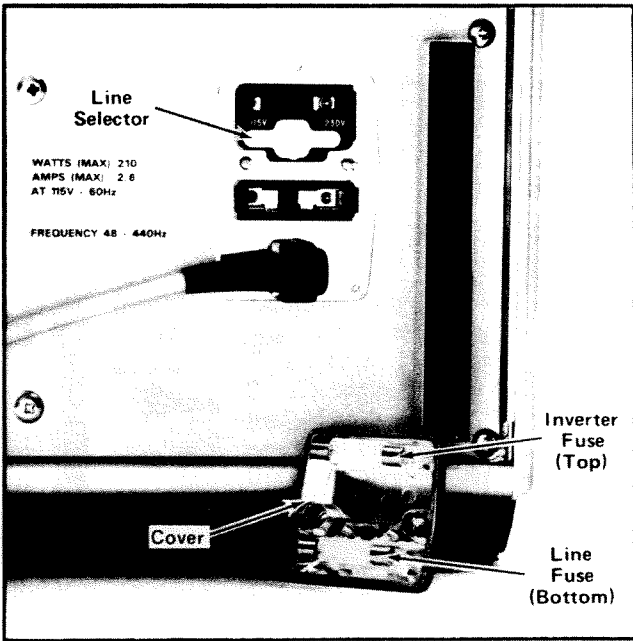

Fig. 2-1. Line Selector assembly on rear panel (shown with cover removed).
3. To convert from 115-volts to 230-volts nominal line voltage, or vice versa, pull out the Selector switch bar (see Fig. 2-1) and plug it back into the remaining holes. Change the line-cord power plug to match the power-source receptacle or use a 115- to 230-volt adapter.